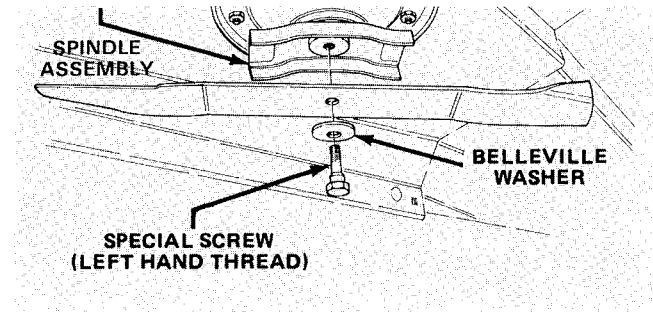

Figure 29
2. Grasp end of blade using a rag or thickly padded glove. Remove special screw, belleville washer and blade from spindle assembly (Fig. 29).